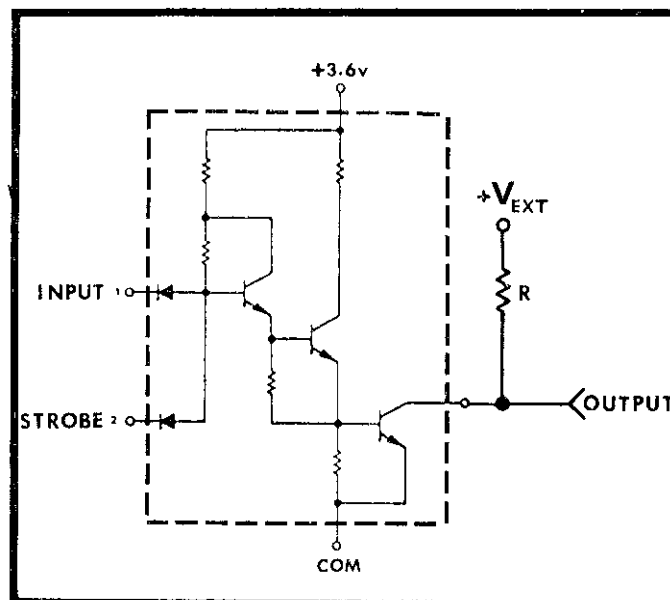

FIGURE 5. Model 1602 Output Buffer Stage.
3. The Buffer Stages utilize "Open Collector" output transistors. Therefore, the user must supply a pull-up resistor R and external voltage  $V_{EXT}$  for each buffered output as shown in Figure 5.